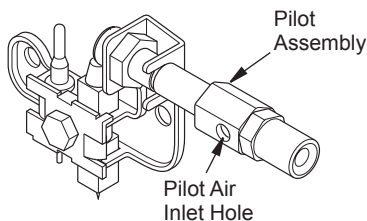

Figure 26 - Pilot Inlet Air Hole
2. Inspect burner, pilot and primary air inlet holes on orifice holder for dust and dirt (see Figure 26).
Clean pilot assembly also. A yellow tip on the pilot flame indicates dust and dirt in the pilot assembly. There is a small pilot air inlet hole about 2" from where the pilot flame comes out of the pilot assembly (see Figure 26). With the unit off, lightly blow air through the air inlet hole. You may blow through a drinking straw if compressed air is not available.